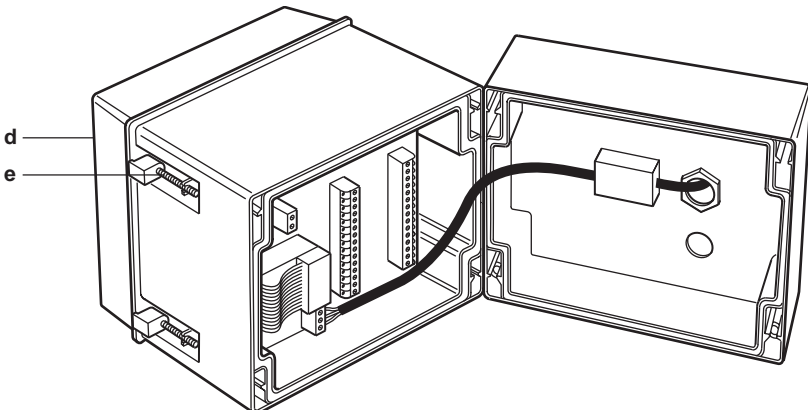

Fig. 6 Mains wiring - panel mounting
4. Extend the clamping legs 'e' (Figure 6, page 9) to engage with the back of the panel. Tighten the four clamping screws 'd' (Figure 6, page 9) through the access holes in the R16C front panel bezel.